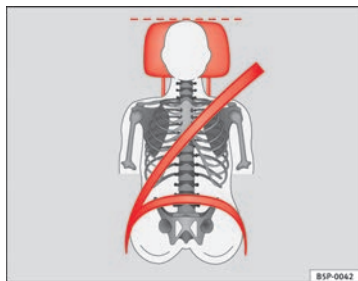
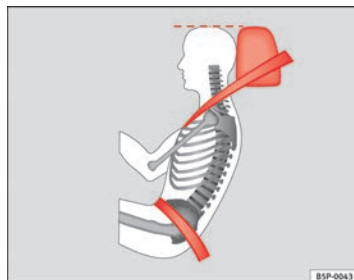

Fig. 65 Front view: head restraints and seat belts correctly adjusted
Fig. 66 Side view: head restraints and seat belts correctly adjusted
- Adjust the head restraint so that the top is at the same level as the top of your head or as close as possible to the same level as the top of your head, at least at eye level ⇒ fig. 65 and ⇒ fig. 66.